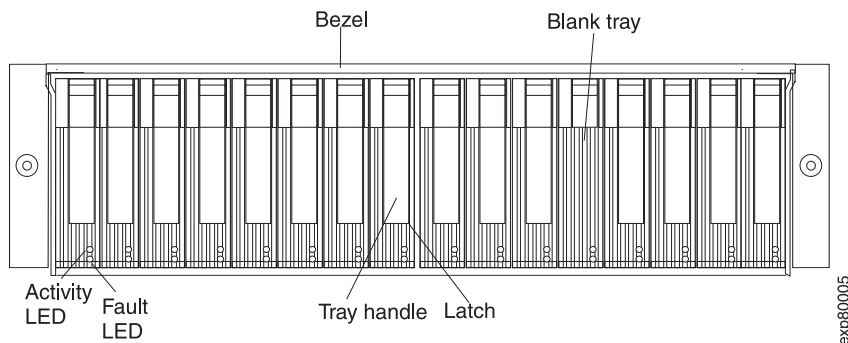

Figure 50. Hot-swap E-DDM LEDs
2. Check for Fault LEDs shown in Figure 50. If any amber LEDs are lit, see “Solving problems” on page 125.